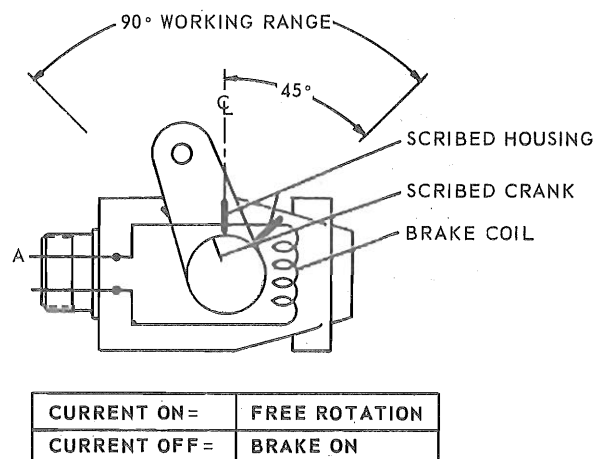

Figure 9-13. Magnetic Brake (Wiring Diagram)
through a circuit breaker and fuse panel. (See figure 9-13.)
(3) Place shim (26), flanged bushing (25), bushing (24), and washer (23) on shaft.
(4) Install gear (22) on shaft and use shims (20 and 21) as required to eliminate end play.
(5) Use shims (33, 34, and 37) as required to obtain 0.002-inch maximum backlash.
(6) Press ball bearing (19) on gear (22) and install retaining ring (18).
c. Install screws (12, 13, 14, and 15) and install nuts (11). Tighten screws (13, 14, and 15) to a torque of 18 to 22 inch-pounds.
d. Install shim (10), as required to set brake air gap to allow brake operation at 17 vdc and adapter (9) to housing with screws (7 and 8).
e. Install receptacle (6) to housing with screws (5).
f. Place arm (4) on gear (22), and install washer (3), bolt (2), and nut (1).
b. Paint 90 degree scribe marks using red paint, Military Specification MIL-E-7729. (See figure 9-13)
9-59. TEST PROCEDURE. (See figures 9-13 and 9-14.)